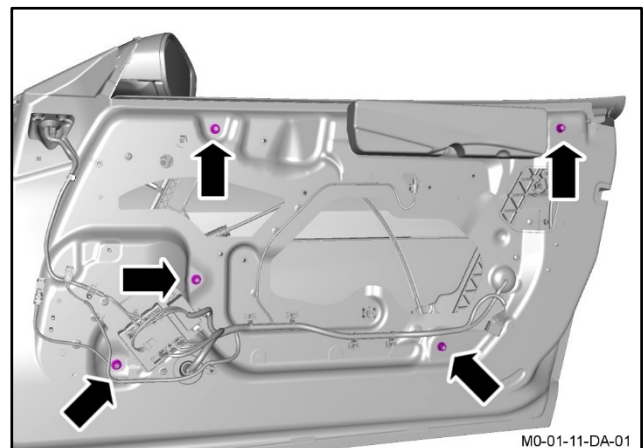

Figure 14
24. Remove the five nuts that attach the regulator assembly to the door (refer to Figure 14).